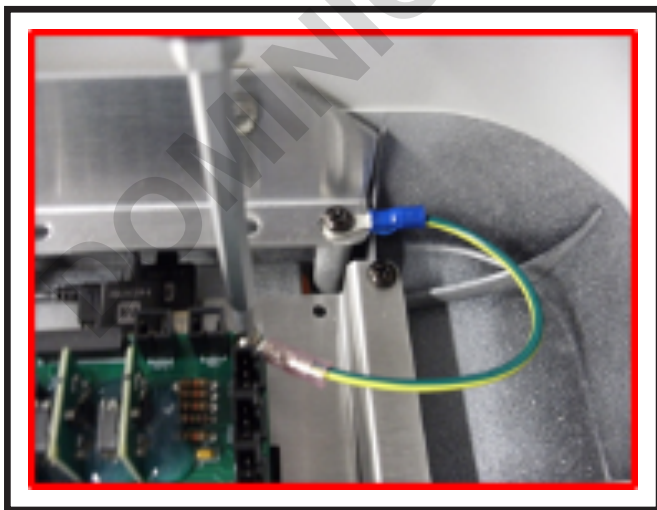

Figure 25
2. Using #2 Phillips Screwdriver, disconnect (1) ground wire connection (Figure 25).